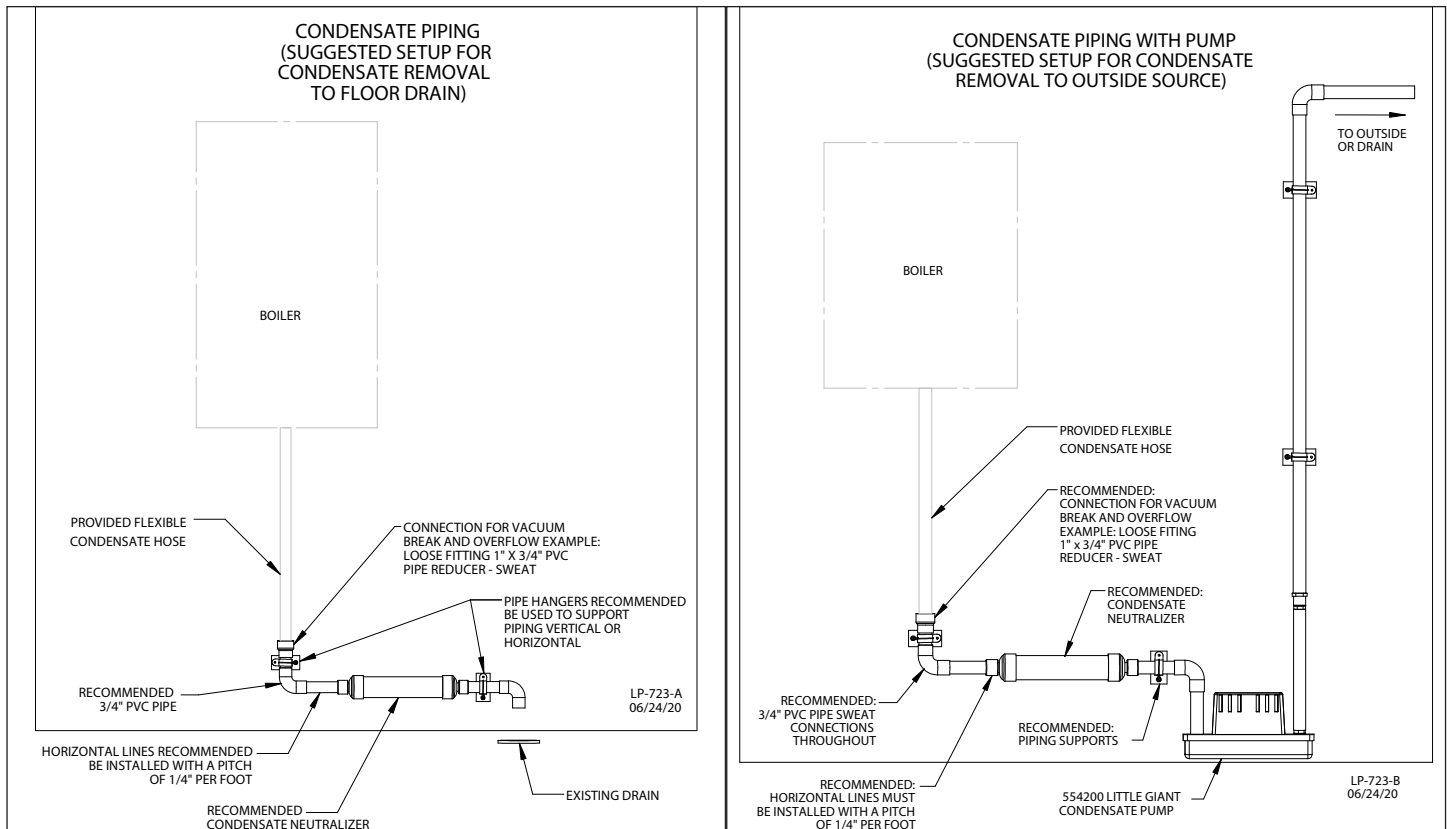

Figure 46 - Condensate Piping Suggestions
8. Local building codes may require an in-line neutralizer to be installed (not included) to treat the condensate. See Figure 46. If required by local authorities, a condensate filter of lime crystals, marble, or phosphate chips will neutralize slightly acidic condensate. Follow all the installation instructions included with the neutralizer. If a neutralizer is installed, periodic replacement of the limestone (or neutralizing agent) will be required. The rate of depletion of the limestone varies with usage of the boiler. During the first year of boiler operation, check the neutralizer every few months for depletion.